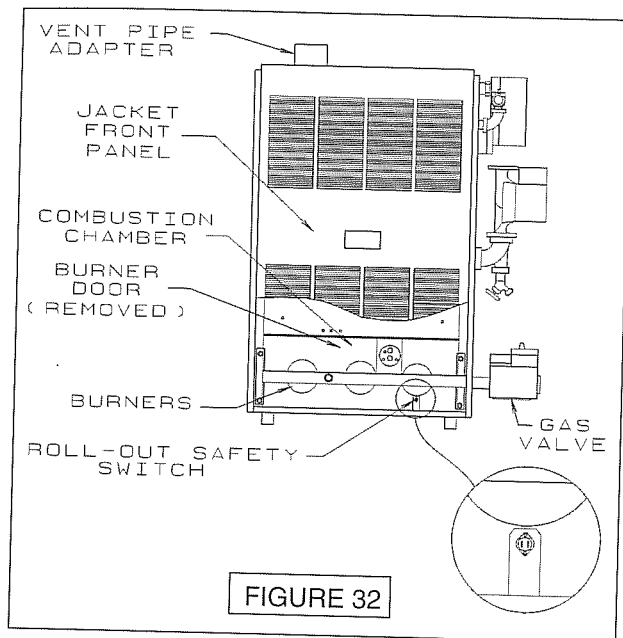

FIGURE 32
- C. Remove the top jacket panel. See figure 32 above.
- F. Remove the flue collector and venter from the boiler castings by loosening the nuts on the hold-down bolts located on each side of the collector. See figure 32 above.